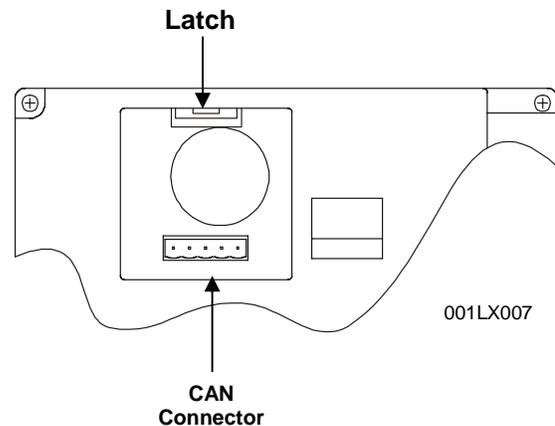

Figure 8.2 – Close-up of Latch
3. Press in and lift up on the latch at top of battery access door (above CAN connector). (Figure 8.2).